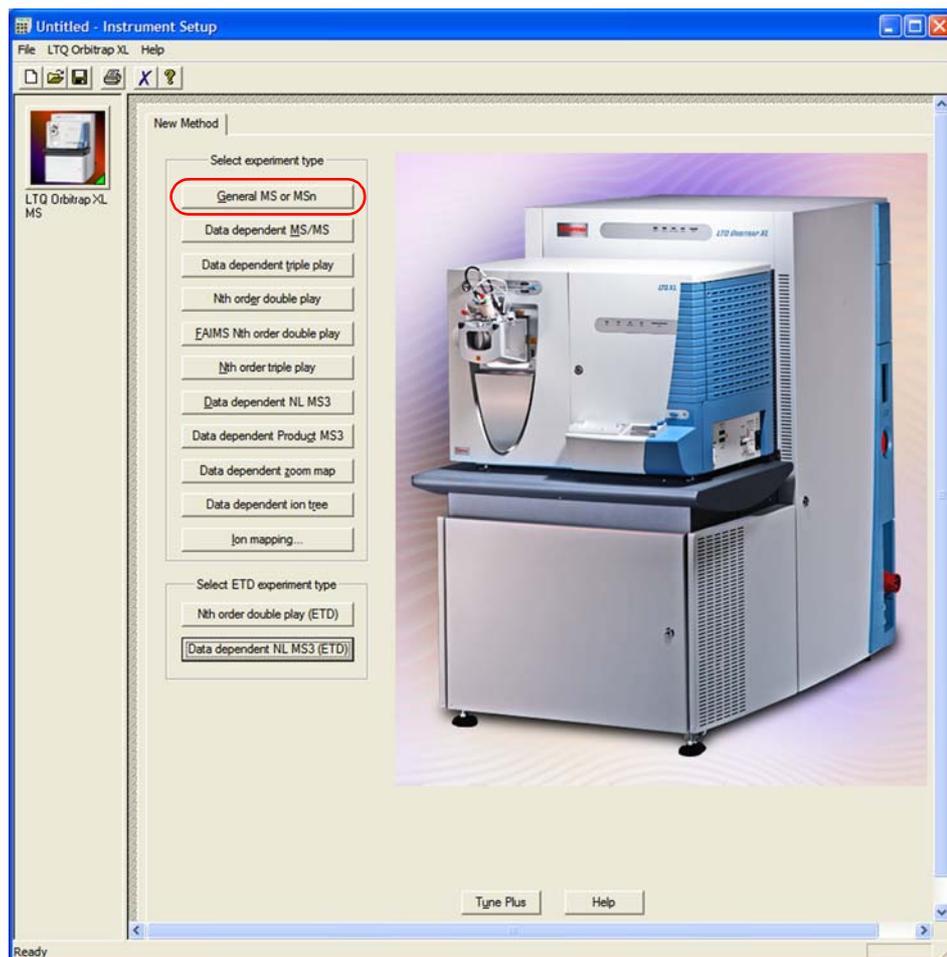

Figure 8-32. New Method view in Xcalibur Instrument Setup
3. Click **General MS or MSn** in the Select Experiment Type section of the New Method view. See Figure 8-32 on page 8-34.